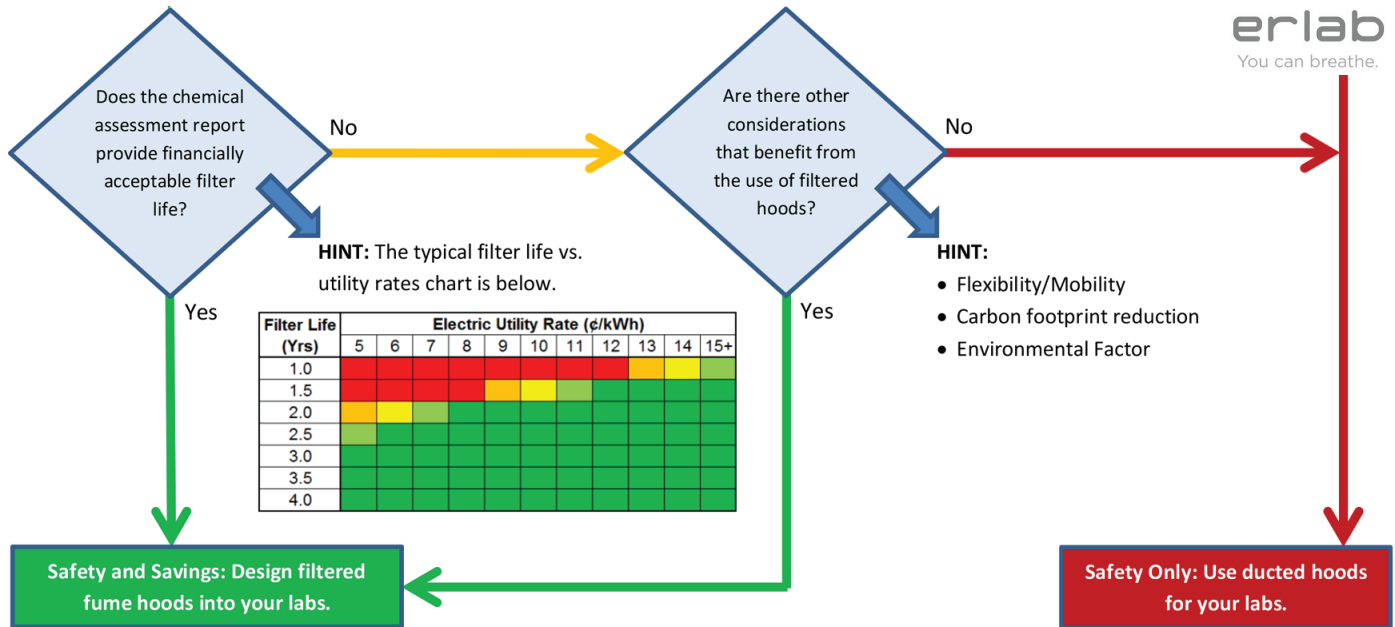

Figure 6: Step 4 - Confirmation of Safety and Savings
- 4) The last step is confirming all previous assumptions are correct (see Figure 6):